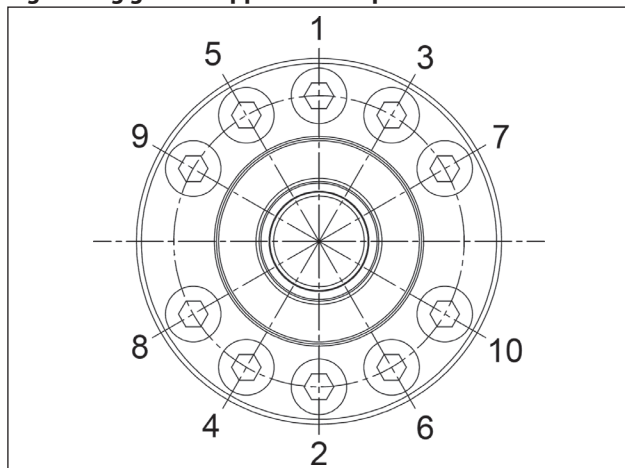

Fig. 132
** The supports diagram fixing screws Fig. 132 must be tightened in two steps: